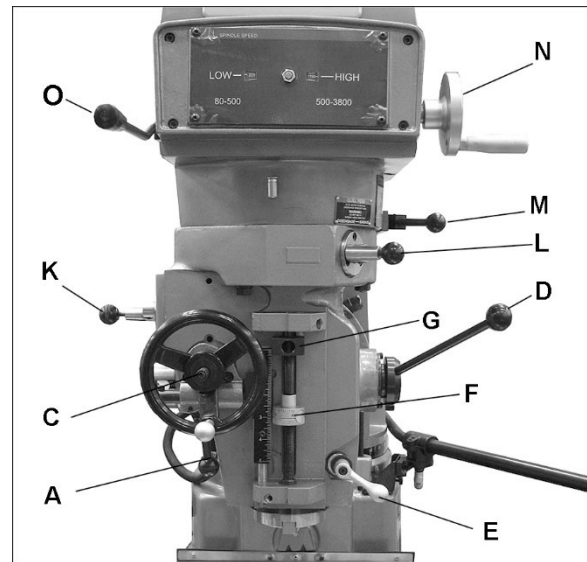

Figure 8-9
While machine is running, turn speed control handwheel (N, Figure 8-9) until desired speed shows on front plate.
Refer to Figure 8-9.
1. Lock spindle using spindle brake (O, Figure 8-9).